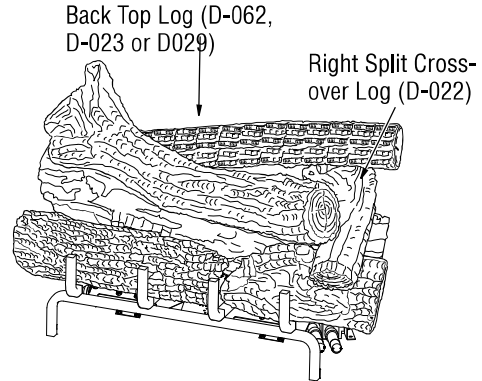

Figure 29 - Installing Back Top Log and Final Assembly
- Find the back top log (LMF24GTA/B or LMF24MOA/B models: D-062, LMF30GTA/B or LMF30MOA/B models: D-023, LMF36GTA/B or LMF36MOA/B models: D-029). See **Figures 29, and 29A**. The left end of this log has a round hole that fits over the round peg that is on the top of the back left log. The right end of this log has a rectangular hole that fits over the rectangular peg on the top of the right crossover log.